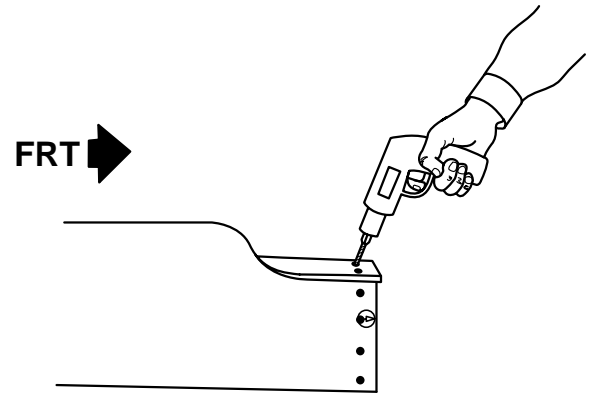

Figure 5-7:
- 5 Drill 8mm ($\frac{5}{16}$ in) plug weld holes in the top, bottom and sides of the original rail approximately 10mm ($\frac{3}{8}$ in) from the sectioning cut (figure 5-7).